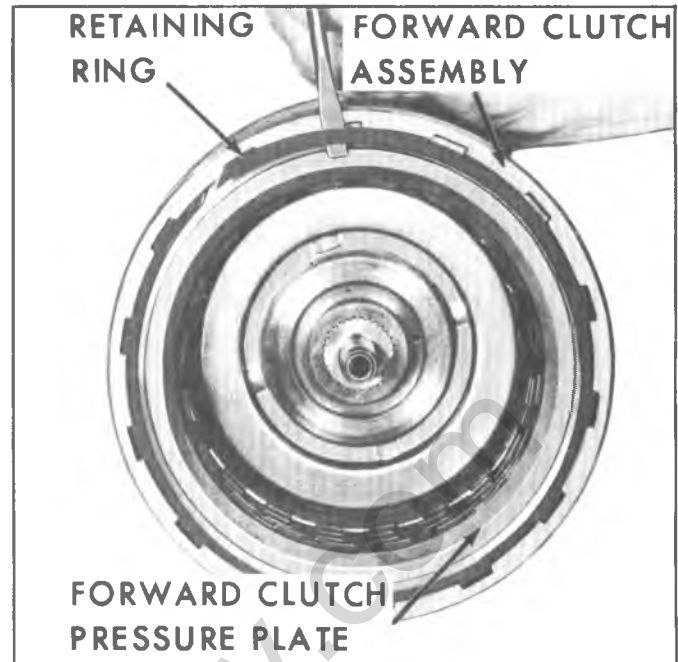

Fig. 72N--Removing Forward Clutch Retaining Ring and Pressure Plate
2. Remove forward clutch retaining ring and pressure plate (fig. 72N).